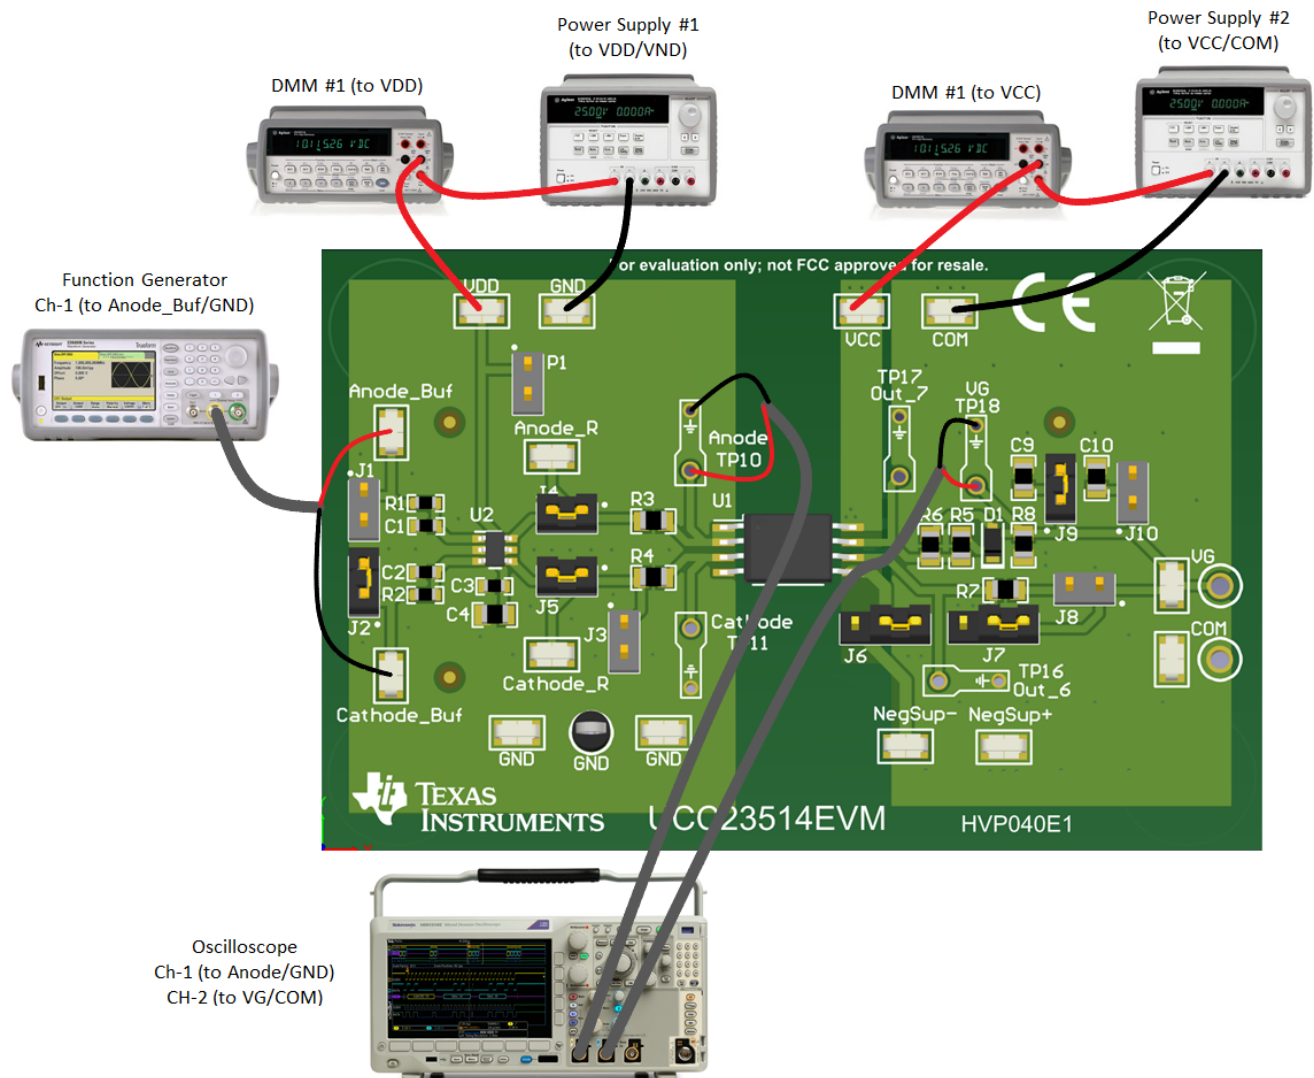

Figure 7. Bench Setup Diagram and Configuration
Follow the connection procedure below. Figure 7 can be used as a reference.
- Function generator channel applied on Anode\_Buf ↔ Cathode\_Buf or J1-1 ↔ J1-2 (see in Figure 7)